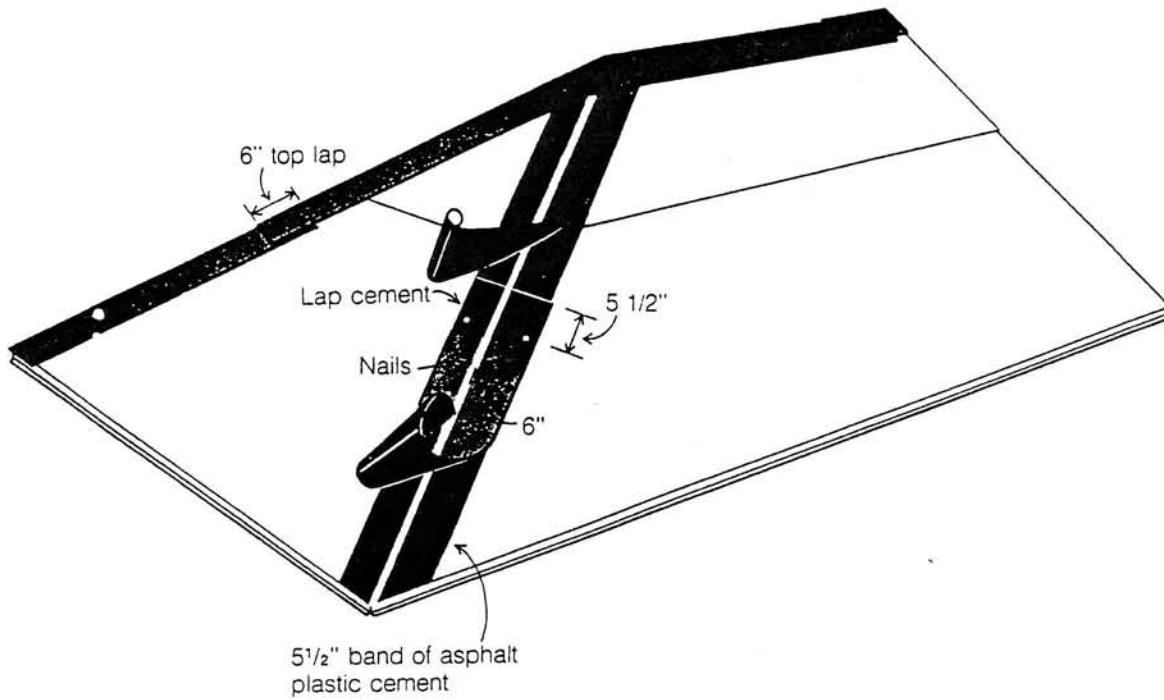

Figure 59: Concealed nail method of applying roll roofing to hips and ridges
**HIPS AND RIDGES** — Trim, butt and nail the sheets as they meet at a hip or ridge. Next, cut 12- x 36-inch strips from the roll roofing and bend them lengthwise to lay 6 inches on each side of the joint. Do not bend the strips in cold weather without first warming them. These will be used as "shingles" to cover the joint, each one overlapping the other by 6 inches as shown in Figure 59.